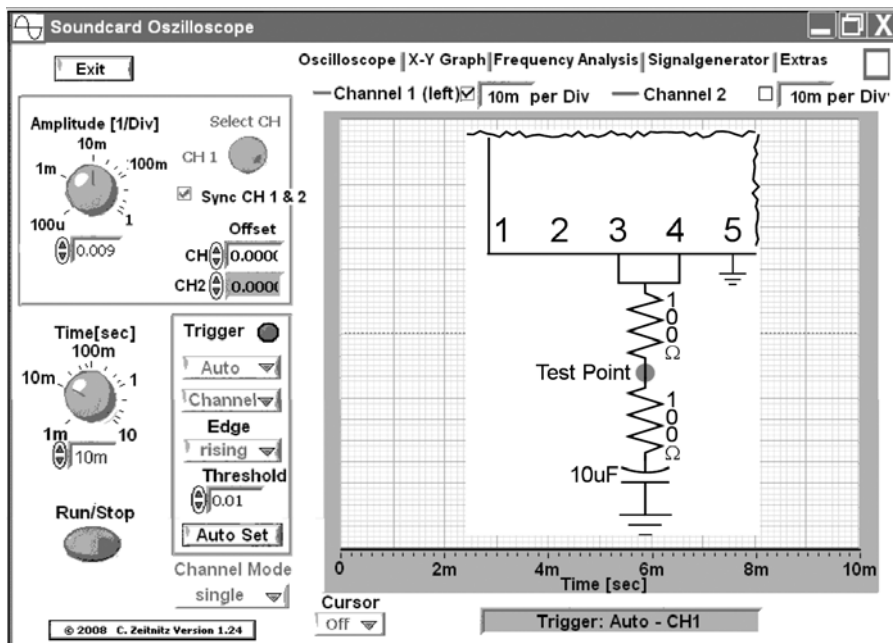

Figure L39-5
- An oscilloscope (Soundcard Scope) is the best tool to help understand this. With the LED removed, attach the scope probe's red clip to the output at pins 3 and 4. The black clip goes to ground. The plug goes into the "Line In" connection of the sound card. The settings are shown in Figure L39-5.